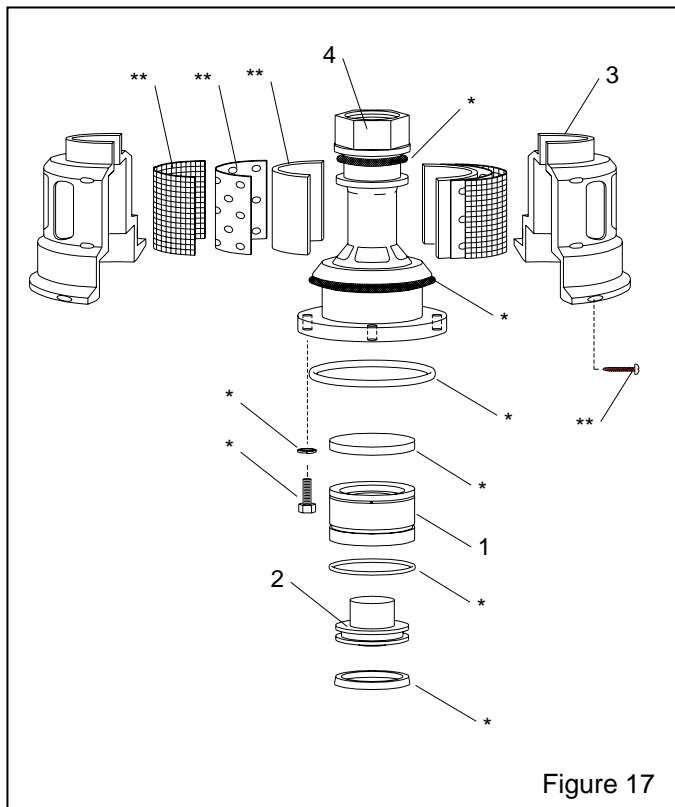

Figure 17
8.7 Millennium Valve Outlet Segment, Figure 17